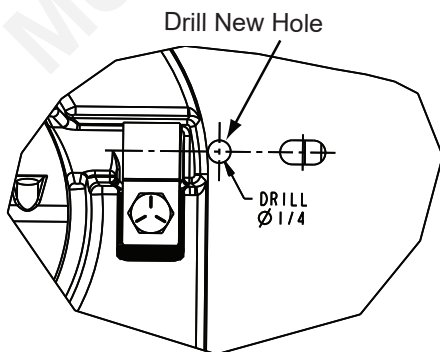

Figure 6
5. Drill a pilot hole using a 1/8 inch drill bit. Then drill a hole 1/4 inch as shown in **Figure 6**.